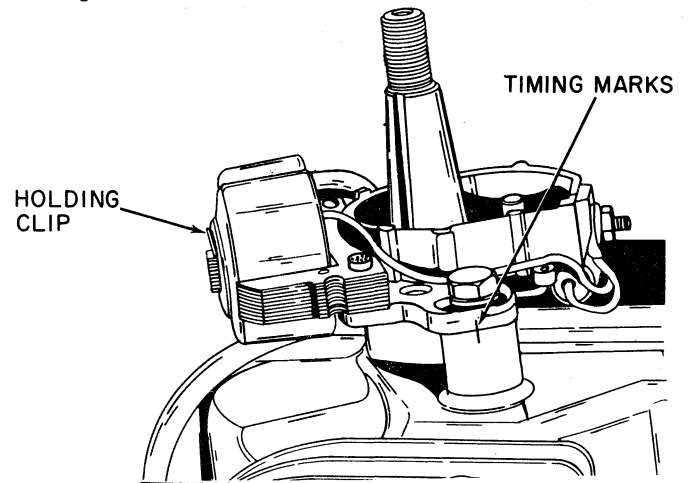

Figure 18
11. If the coil was removed, replace it very carefully over the center core. Position the stator assembly on the crankshaft, using the crankshaft seal as a pilot. Make sure that the timing marks line up. Refer to Figure 18.